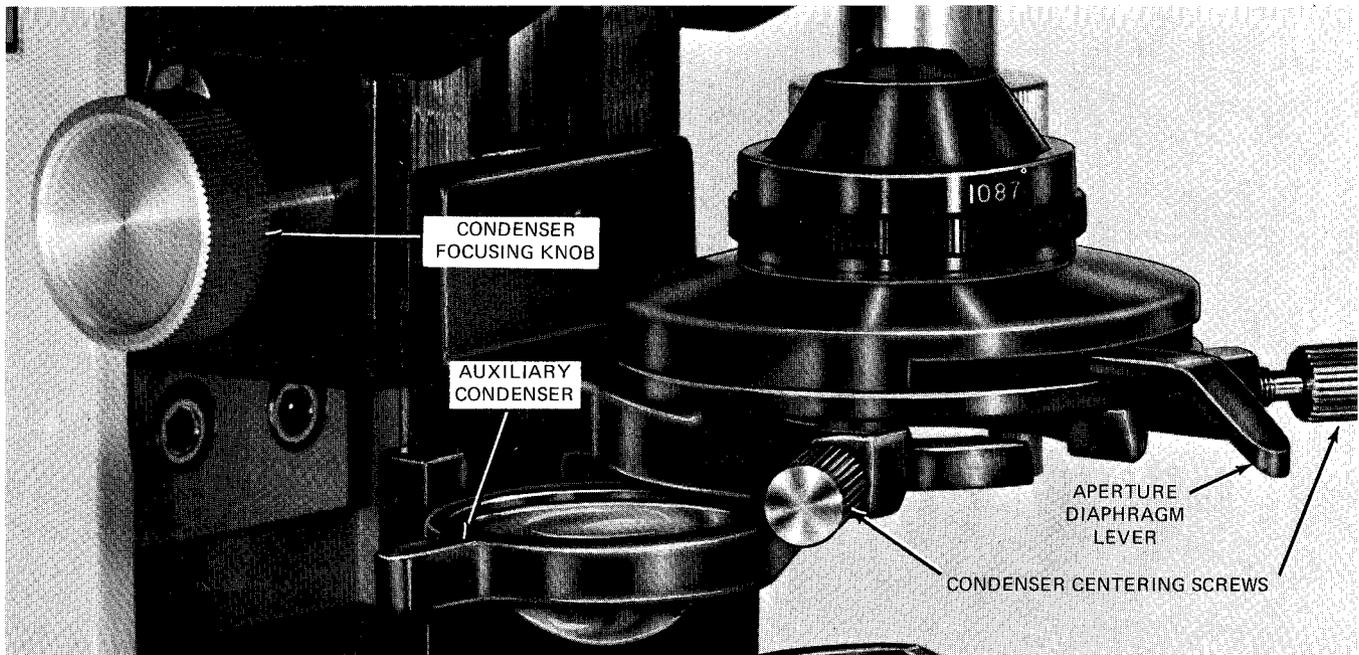

Figure 26. Substage Structure
B. Fully open the aperture diaphragm of the condenser (Figure 26).
- E. If using the No. 1091 Auxiliary Swing-in Condenser (Figure 26) make sure it is out of the light path. This swing-in lens should be used only with objectives under 10X.
- F. Raise the microscope condenser with the condenser rack and pinion knob, Figure 26, to its factory-set fixed stop.
- I. Using the two centering screws on the condenser fork, (Figure 26), simultaneously center the image of the field diaphragm to the periphery of the field of view. After centering, open the field diaphragm until the iris leaves "just" disappear from the field of view. (If your instrument is equipped with No.1099 Wide Field Condenser, field diaphragm should be opened completely; then swing frosted glass into light path.)